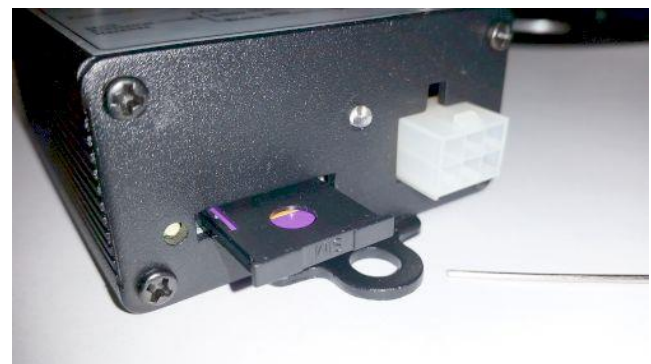

Fig. 3: Correct orientation of SIM card
3. Insert SIM holder back into the unit *facing down* (Fig. 3), towards the circuit board. Push it in until it is about 1/16" in.